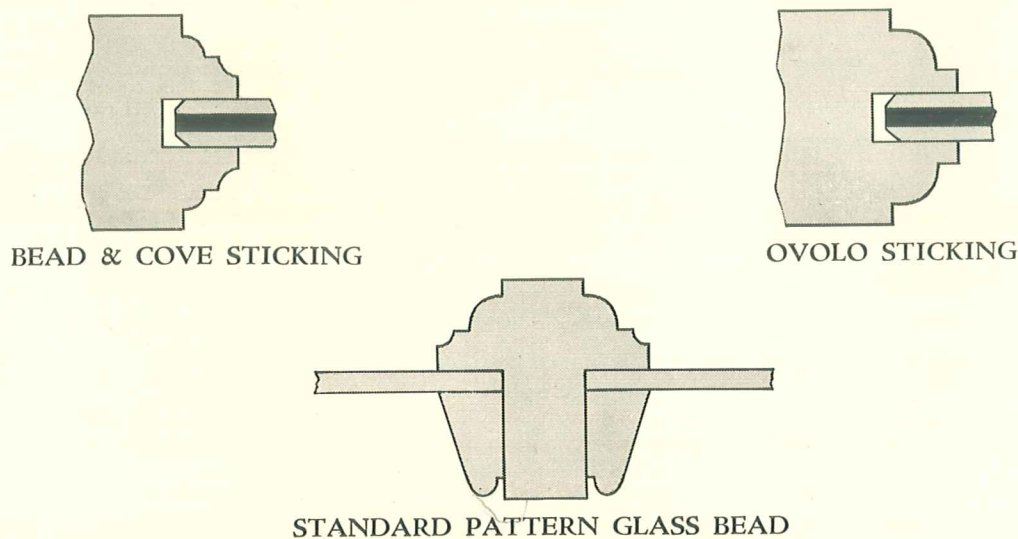

FIGURE 1.—*Sticking*
8. *Sticking*.—Three-eighths inch “bead and cove” or “ovolo” sticking shall be standard on all standard doors. “Bead and cove” sticking will be furnished, unless otherwise specified. (See fig. 1.)